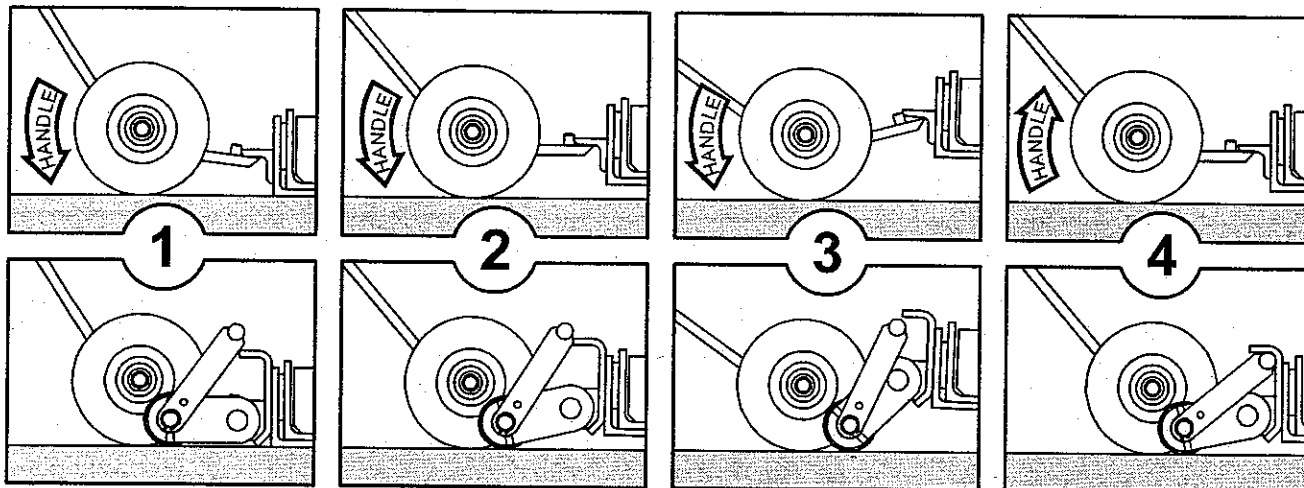

Figure 18 Portability Wheel Engagement
1. Position dolly tongue under the base lift plate, as shown in Figure 18, Section 1.
2. Slowly raise the EZ Loader base frame by rotating the handle until the stop arm clears the catch lip, as detailed in Figure 18, Sections 2 and 3.
3. Lower the base until the stop arm completely engages the catch, as shown in Figure 18, Section 4.